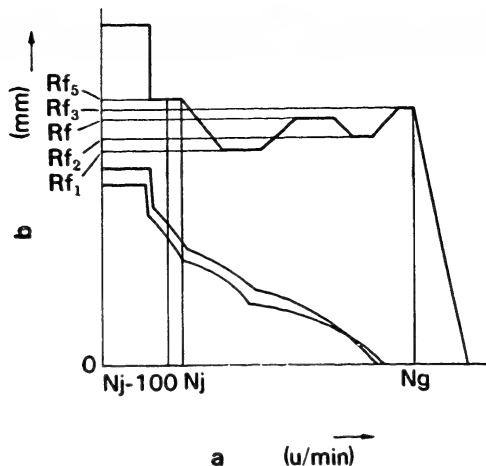

Fig. 155 Checking the torque control stroke
- 2) Decrease the pump speed to N_j minus approximately 100 rpm, then increase it to N_g rpm to ensure that the torque cam stroke is within the specified range. If the torque cam stroke is not as specified, readjust the full-load setting bolt and torque cam. If this adjustment cannot be performed to obtain the specified control rack position, replace the torque cam. (Fig. 155)